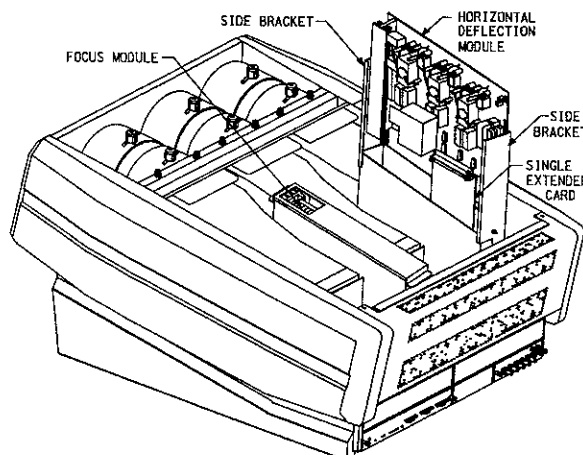

Figure 3-9. Horizontal Deflection Extension
- e) Install the two shield mount side brackets as shown in Figure 3-9.